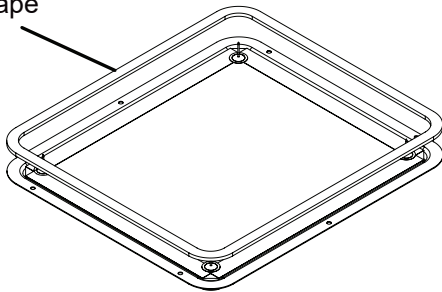
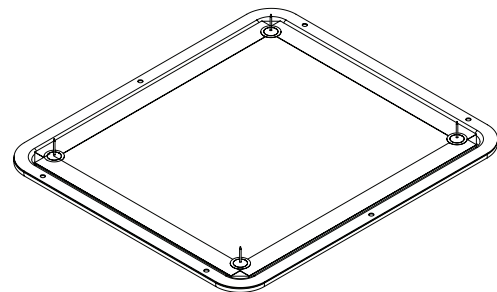

Fig.13-1
Fig.13-2
2. Use four sticking foam tapes provided in accessory bag and stick tapes on covers. See Fig.13-1 and Fig.13-2.